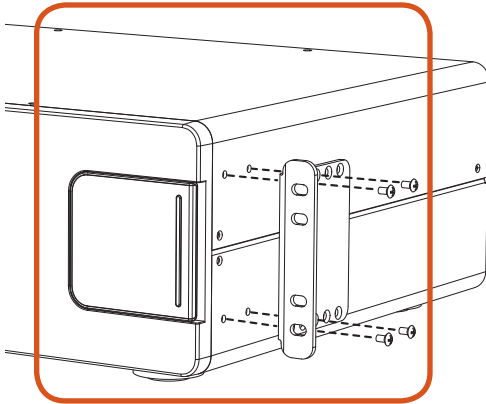

Fig. 1
- D. Attach the bracket to the side of the Power Console (Fig. 1). You must use a minimum of four screws to mount each bracket.